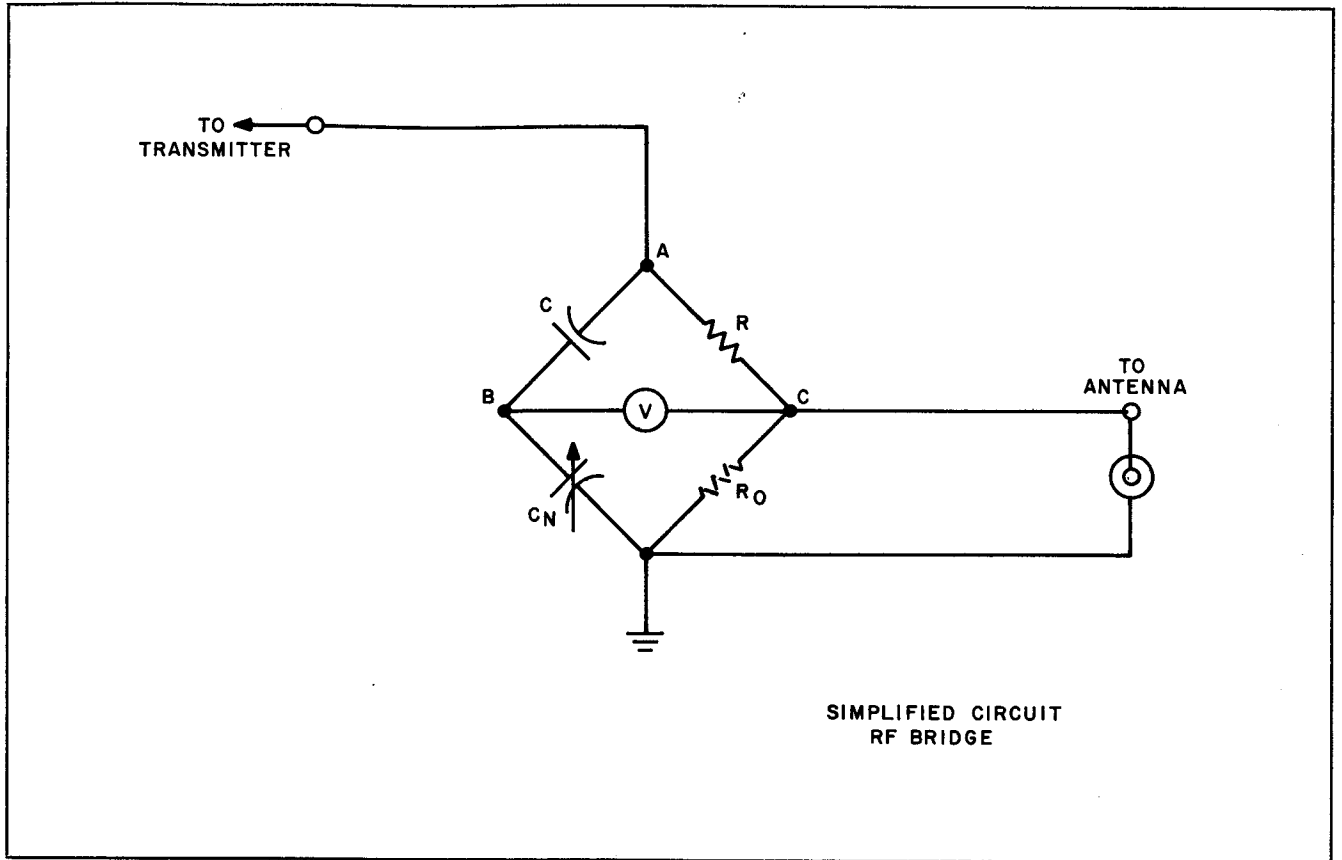

Figure 2-3 Simplified Circuit, R. F. Bridge
2-2-1-1 The DIRECTIONAL COUPLER is a sensing device for the VSWR meter circuit. Figure 2-3 shows that the coupler is essentially an RF bridge, one leg of which (RO) is the resistance of the antenna and the coaxial line. If RO should change to some value other than 50 ohms the bridge will be unbalanced and register a proportionate meter reading.